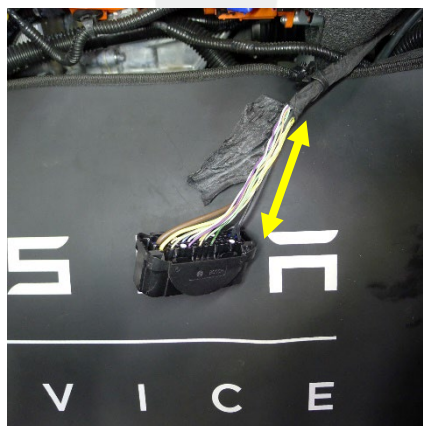

Figure 11
13. Unwrap and remove the electrical tape from the electrical harness for a distance of 150 mm from connector X151 (Figure 11).